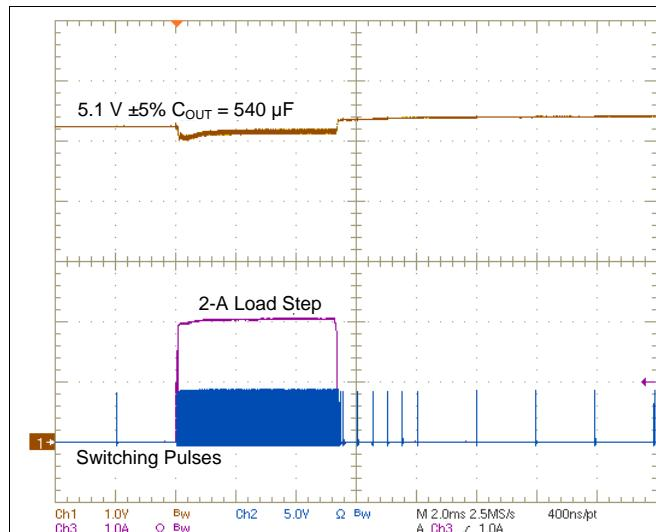
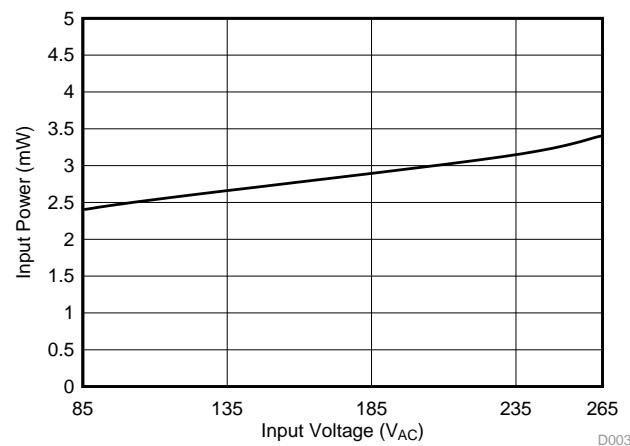

Figure 24. 2-A Load Step During Stand-by Operation
Figure 27. No-Load Input Power Consumption for a 5-V, 10-W Converter
The following figures indicate the transient response of a 5-V, 10-W flyback converter which receives a pulsed step-load of 2 A while operating in the no-load stand-by condition. Figure 27 indicates the no-load stand-by input power consumption achieved by this converter over the full AC input range. Zero-Power operation is achieved while retaining fast transient response to a full load step.
1. Minimize stray capacitance on the VS node. Place the voltage sense resistors ( $R_{S1}$  and  $R_{S2}$  in Figure 24 through Figure 27) close to the VS pin.